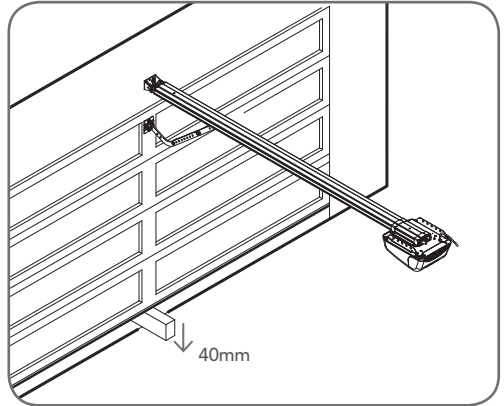

Fig. 7.2
- Place a piece of timber approximately 40mm high on the floor directly under the door **(Fig 7.2)**.